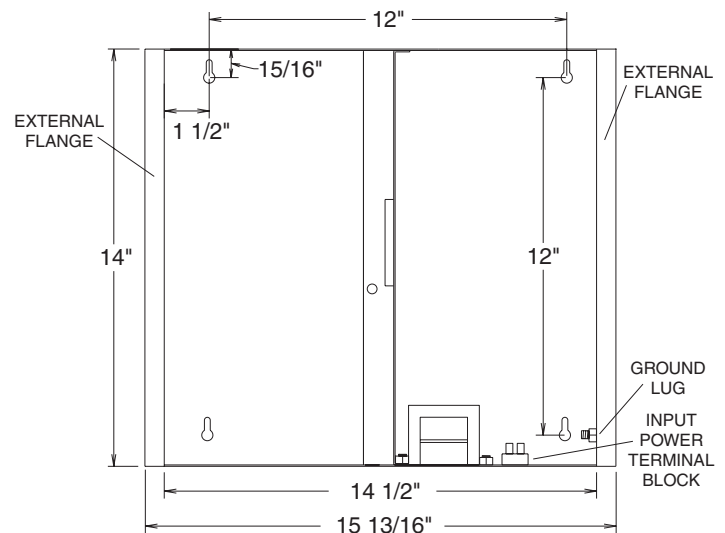

Figure 2 - Cabinet Dimensions
1. Mount the cabinet using the four holes provided in the back of the enclosure. Refer to *Figure 2* for dimensions.
3. Attach a spade (fork) or ring terminal to a suitably sized ground conductor, then connect the ground to the grounding stud in the lower right side of the enclosure. See *Figure 2* for details.